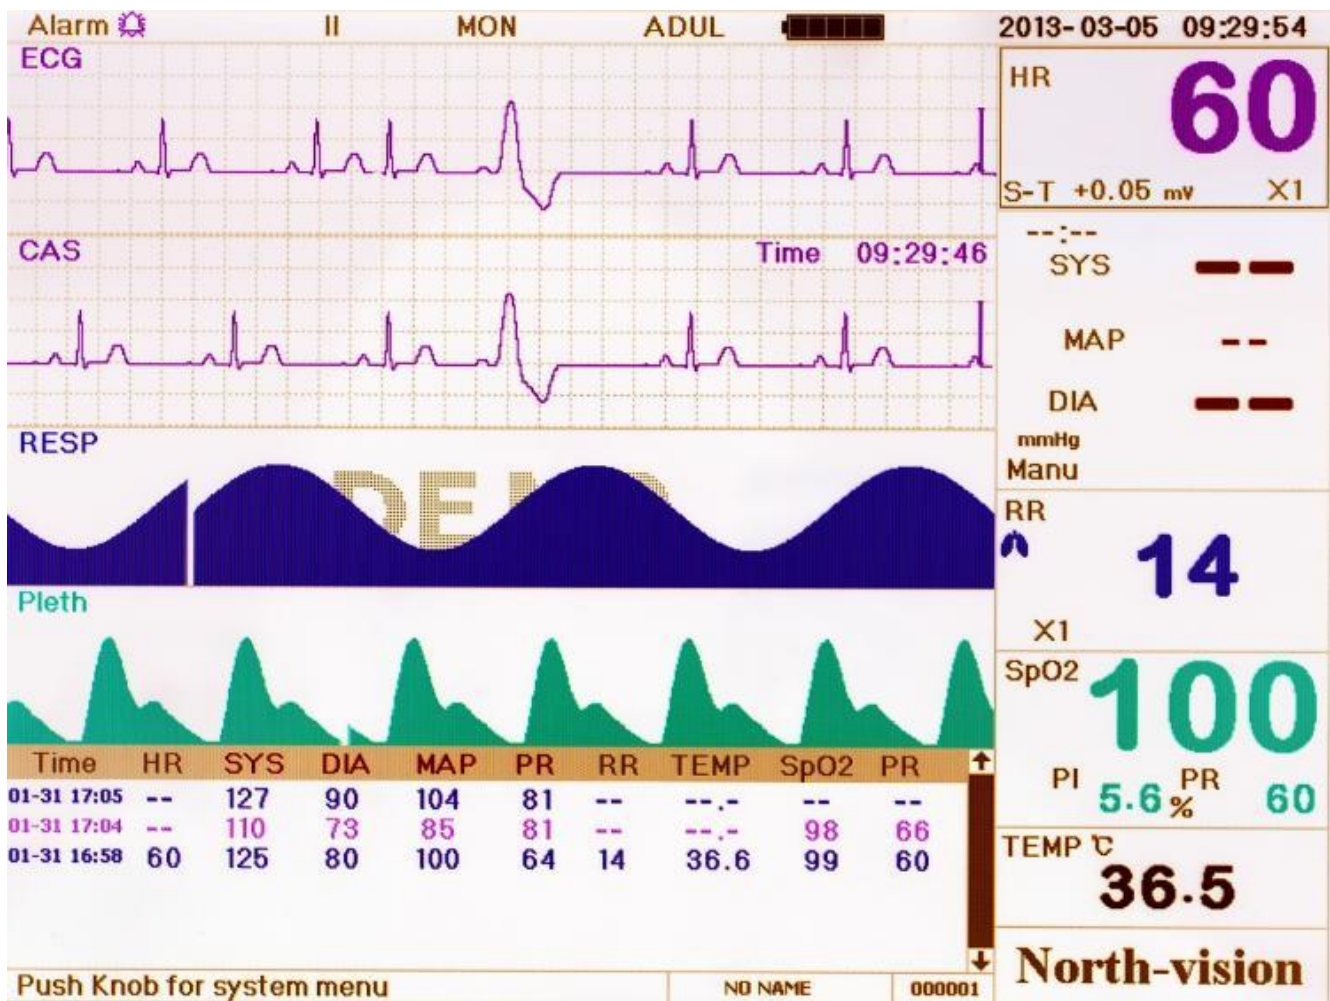
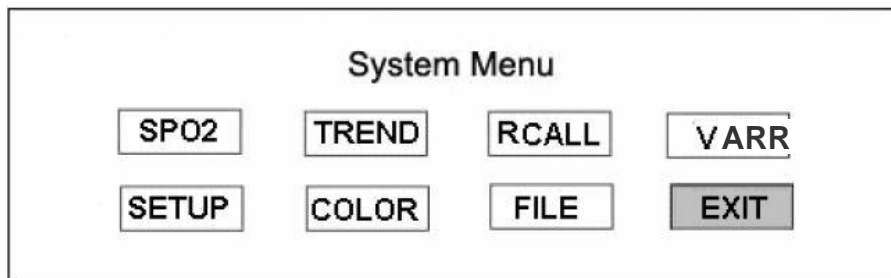

Figure 4.2 Main Screen
Figure 4.12 Trend Menu Screen
Step 5: If you have finished adjusting the date and time, press the knob and rotate the knob to move the cursor to “Save”, press it to save the settings. Then move the cursor to “Exit”, press it to exit the date and time setting screen, meanwhile enter into the main screen shown in Figure 4.2.
The system is initialized and enters into Main Screen where monitoring and system operation are performed. (shown in Figure 4.2)
Press the Navigation Knob in the main screen as shown in Figure 4.2, the operating area shows the mode selection screen, as shown in Figure 4.12.